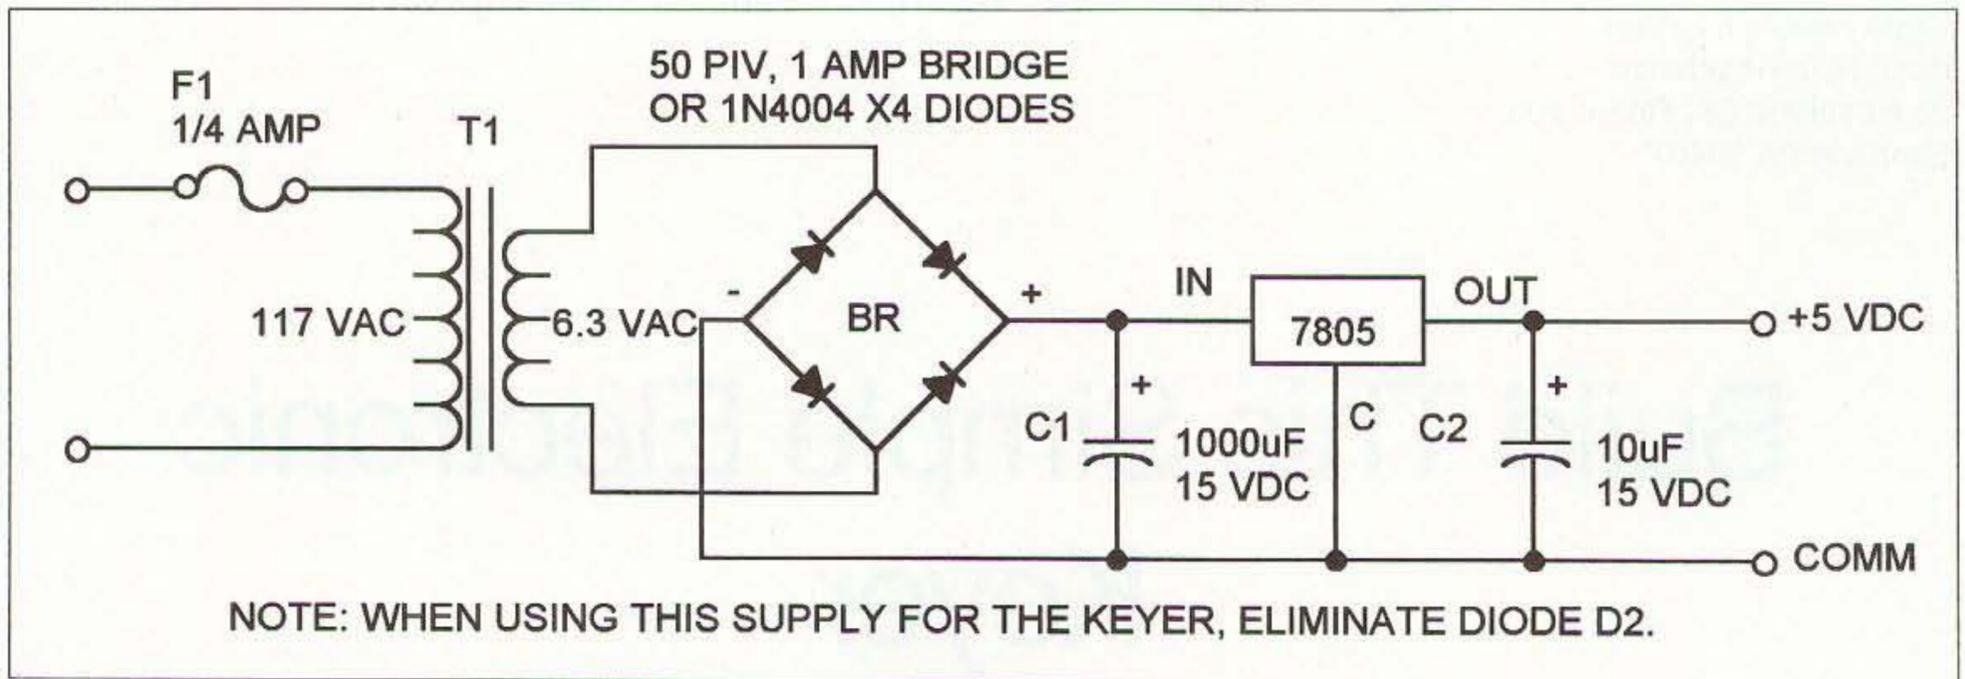

Fig. 2. Power supply.
The keyer features a variable clock speed rate and a sidetone oscillator. It can be used to key a CW transmitter or as a CPO (code-practice oscillator). The circuit operates from any conventional 5-volt DC source. Since it draws only 40 mA of current, it can even be battery-powered, providing many hours of operation from ordinary penlight (AA) cells. For a longer span of time, C or D cells can be used. A power supply is included if you want to run it off house current. See Fig. 2.